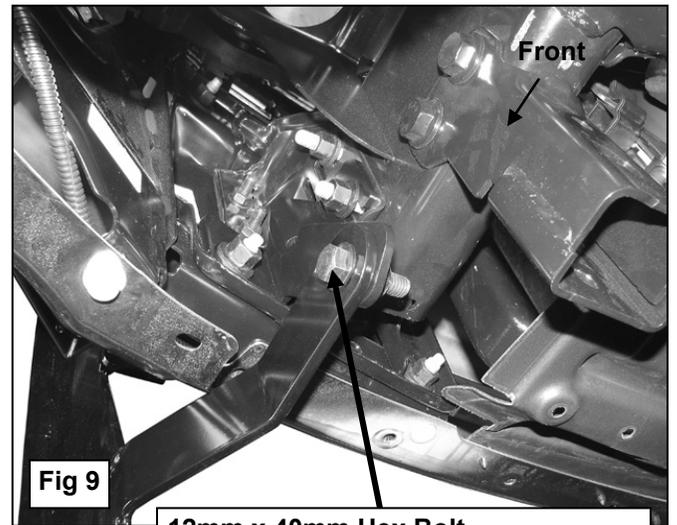

Fig 9
7. Line up the holes and attach the Grille Guard to the Lower Mounting Brackets using the included (2) 12mm x 40mm Hex Bolts, (4) 12mm Flat Washers, (2) 12mm Lock Washers and (2) 12mm Hex Nuts, **(Figure 9)**. Snug but do not tighten at this time.